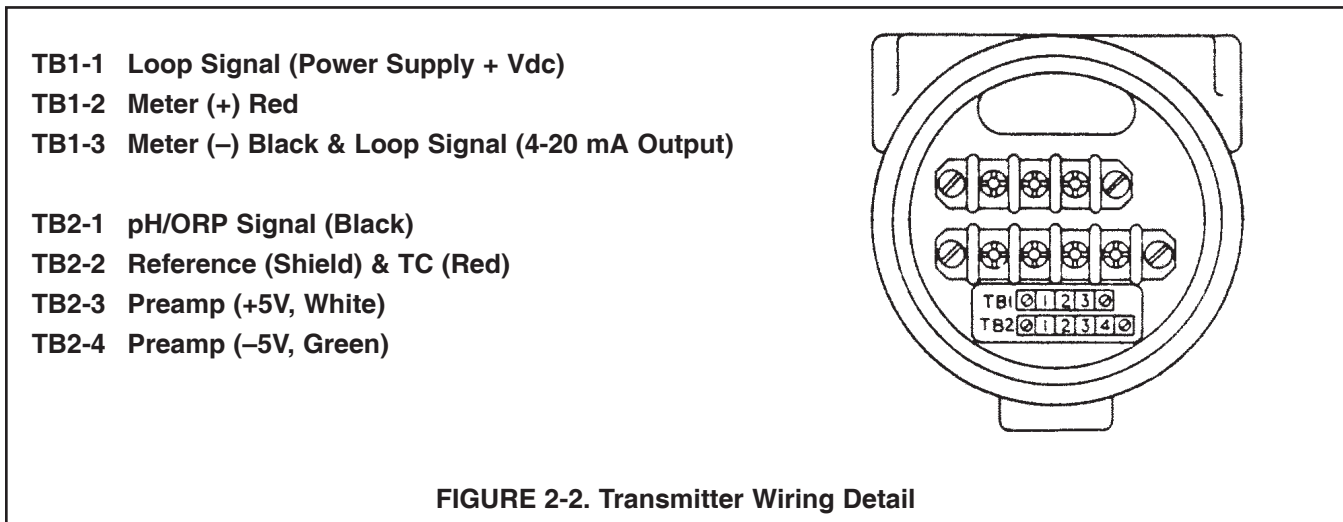

FIGURE 2-2. Transmitter Wiring Detail
2.3.1 Sensor input wiring terminals are located on the side of the housing designated TERM SIDE on the serial label, and are the lower set of terminals (TB2). Remove the end cap from the TERM SIDE of the housing to gain access to the terminals (see Figure 2-2).